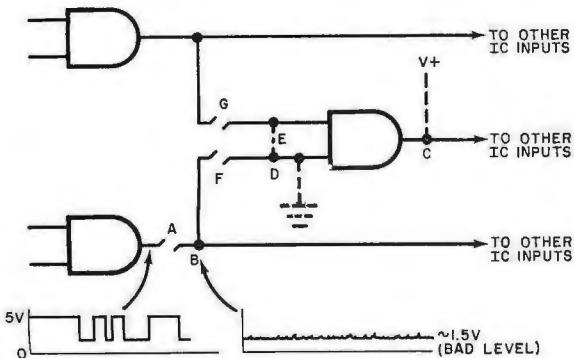

Fig. 6. Five steps to follow in isolating the most common faults in digital logic circuits.
Checking Logic Circuits. The most common defects found in digital circuits are shown in Fig. 6. The following five steps, performed in the sequence shown, will isolate the trouble quickly.
2. Check for an open bond in the IC driving the failed node. An open output at A in Fig. 6 would cause the node at B to float to a bad level of 1.4 to 1.5 volts. Inputs connected to B would interpret this as a high level, but a logic probe would not be fooled! It would indicate a bad level. The IC driving the node should be replaced.
3. If the node is not at a bad level, then test for a short to V+ (point C) or ground (D). Inject a pulse at the suspect node while monitoring the same node with a probe. The pulser is powerful enough to override even a low-impedance TTL output, but it is not sufficiently powerful to cause a change of state on the V+ or ground bus. Therefore, the absence of a pulse indicates that the node is shorted to V+ if it is high or to ground if it is low.
4. Check for a short between two nodes (E in Fig. 6). Pulse one failing node and observe each of the other fail-